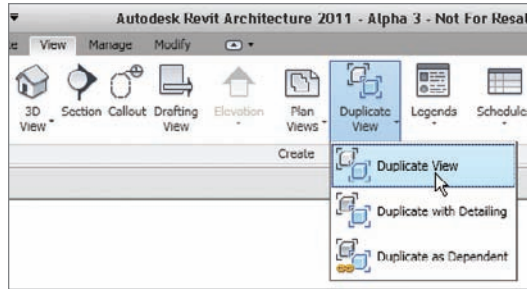

FIGURE 21.15 Duplicating the Level 1 floor plan
2. On the View tab, click Duplicate View > Duplicate View, as shown in Figure 21.15.